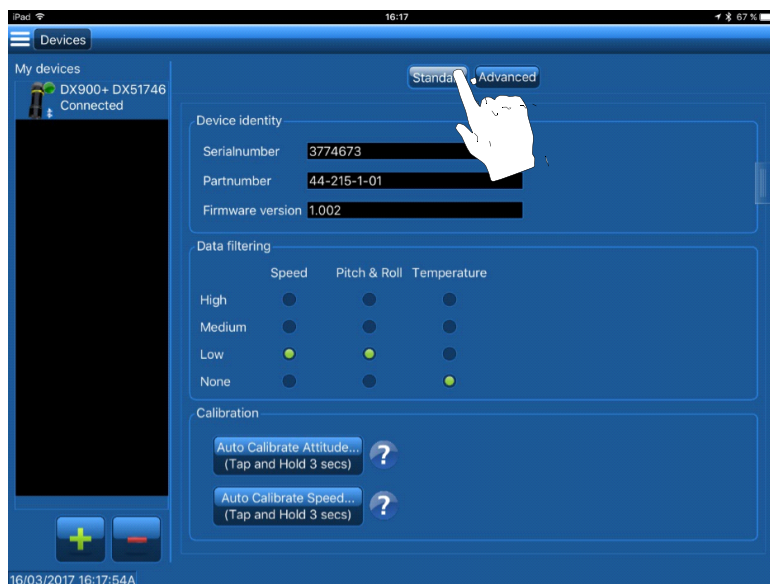

Figure 33. Verify the Firmware version
6. You can verify the firmware version of your sensor on the **Standard** page, *Device identity, Firmware version* (Figure 33)